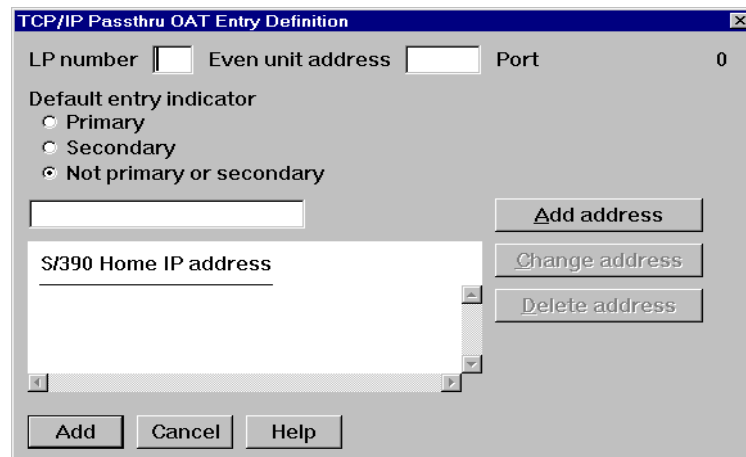

Figure 7-6 Add TCP/IP OAT entry definitions
2. Click **Add...** to move on to the entry panel shown in Figure 7-6.